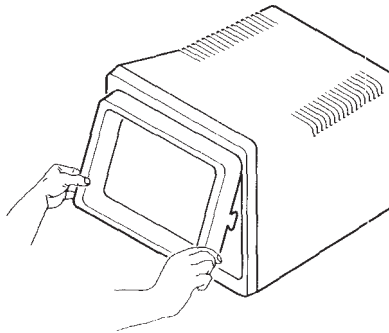

Figure 10-6.
7. Placing your thumbs under the lower corners of HP Touch, push up and toward the monitor until HP Touch snaps firmly into place. Make sure that the cable does not protrude from HP Touch. If it does protrude, pull out the bottom edge of HP Touch, push the cable under and snap HP Touch back into place (Figure 10-6).